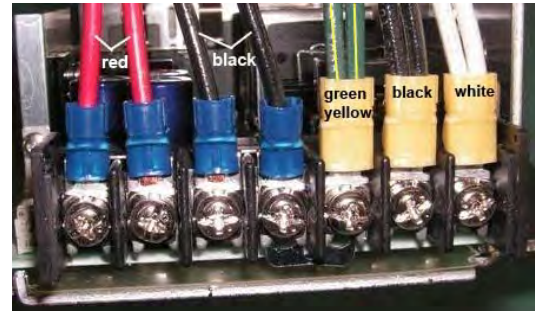

Figure 22: Power Supply Wiring
4. The plate is secured to the back sheet by two (2) #6 nuts. Remove the #6 nuts to remove the plate with the power supply. Lift the power supply and plate out of the display.
5. Each power supply is attached to a mounting plate by two (2) M4x8MM metric screws. Using a #1 Philips screwdriver, remove the screws to free the power supply.
6. Disconnect all power supply wires, noting their connections (**Figure 22**). The power supply is now ready for replacement.